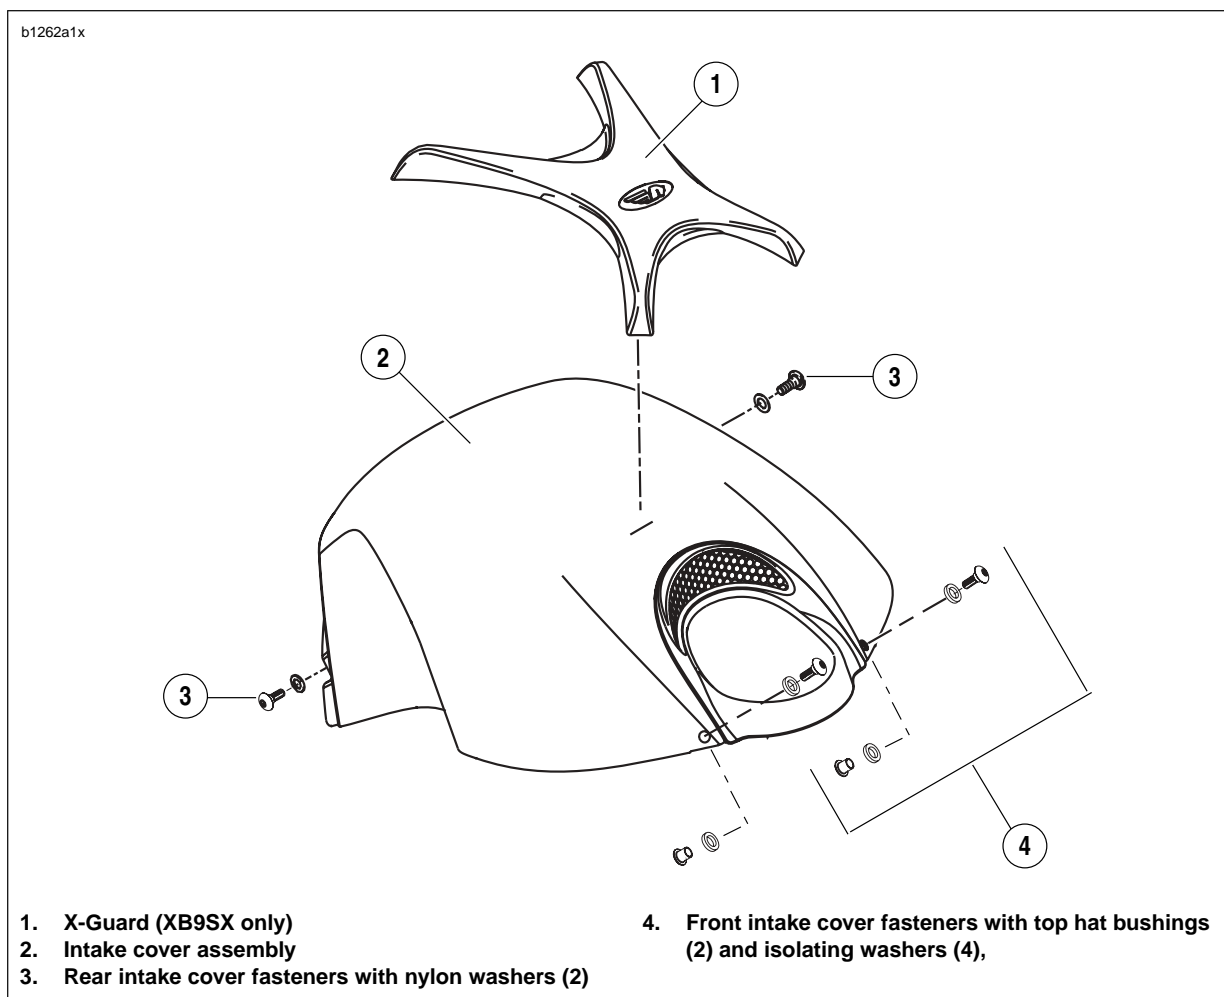

Figure 2-123. Translucent Intake Cover Assembly
See Figure 2-123. Models with molded in color intake covers use four fasteners with nylon washers (3) to secure intake cover.
2. See Figure 2-123. Remove rear fasteners and nylon washers (3), front fasteners (4) with top hat bushings and isolator washers.
3. Remove intake cover assembly (2).
2. See Figure 2-123. Start the front two fasteners (4) with top hat bushings and isolator washers.
3. Install the remaining fasteners and nylon washers (3). Tighten all fasteners to 12-36 in-lbs (1.3-4 Nm).